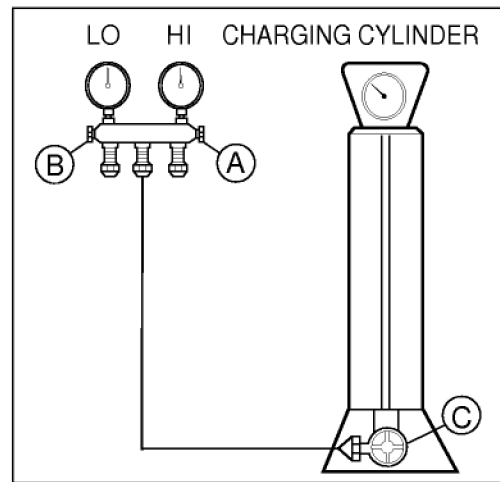

Figure 21B-Charging
- 6-4. Remove the hose from the vacuum pump and place it on the charging cylinder. See figure 21B. Open valve C.
- 7-2. Connect the charging cylinder as shown in figure 21B. With valve C open, discharge the hose at the manifold connection.